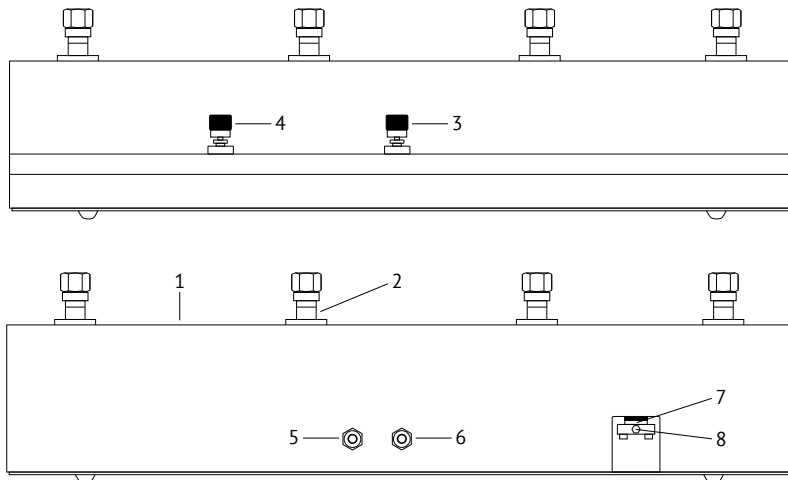

Fig. 2. PSKA panel, front and rear view:
4.1 The external view of the panel is given in fig. 2.
4.2 PSKA panel is made of 2.5 mm thick steel sheet and is covered with powder enamel. 4 racks 2 (fig. 2) are located at the top of PSKA panel, the 2nd from the left (is recommended) for RMI, the others – for operation MI. Valves 3 and 4 serve to increase and reduce the pressure. Quick disconnect connections 5 and 6 are located at the rear side (in case of supply together with K-9, K-25 and vacuum pump. If it is supplied only PSKA panel, output – thread G1/4) for connection of pressure or underpressure source. Also there is a window for mud collector 7 maintenance at the rear side. Valve 8 serves to drain condensate from the mud collector.
5.9 *It is prohibited* to incline PSKA panel without cleaning preliminarily the mud collector according to items 8.4, 8.5, because the condensate containing in the mud collector can enter into valves 3, 4 (fig. 2) and worsen its characteristics.
8.3.1 Create the pressure of 5-8 bar in the panel and discharge sharply the pressure 4 (fig. 2). In this case, the major part of the condensate generated in pipes of PSKA panel will come into the mud collector.